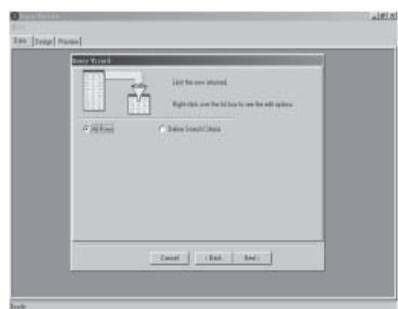

Fig. 8-9 Select the Query Conditions
2.6 Select the query condition as in Fig. 8-9. 'All Rows' means selecting all the records and 'Define Search Criteria' means selecting the records to be queried. And then click the 'Next' button.